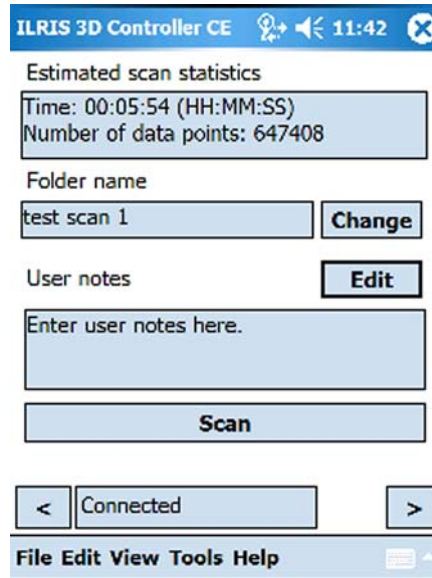

Figure 52: Scan window
After adjusting your scan settings, you are ready to start the scan from the Scan window (Figure 52):
2. Use the keyboard to type the new name of your scan, and click **OK**. The Scan window reappears (Figure 52).
4. Use the keyboard to type your user notes, and tap **OK**. The Scan window reappears (Figure 52).